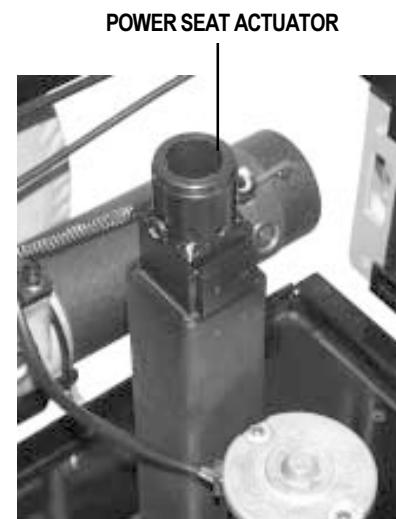

Figure 16. Power Seat Actuator
1. Align the seat shaft to the hole in the actuator. See figure 16.